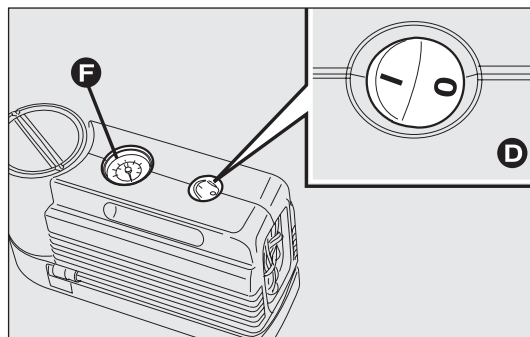
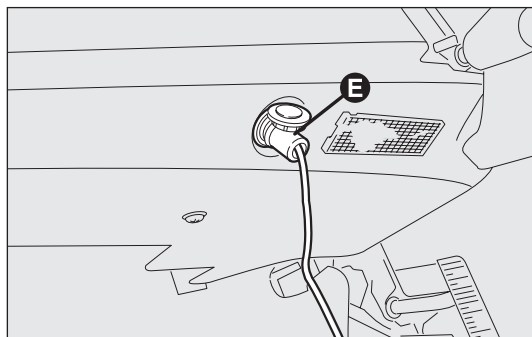

fig. 159
fig. 160
- ☐ make sure that switch D-fig. 159 for the compressor is in position 0 (off), start the engine, insert pin E-fig. 160 into the nearest socket and switch on the compressor by moving switch D-fig. 159 to position I (on) Inflate the tyre to the pressure specified in the "Tyre pressure" paragraph in the "Technical specifications" section.
For a more accurate reading, check pressure gauge F-fig. 159 with the compressor off;